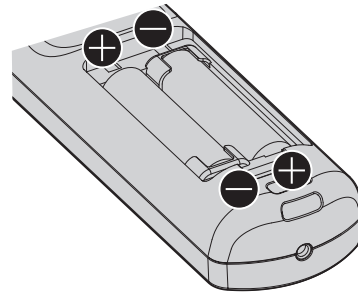

Fig. 2
- 2) Insert the batteries and close the cover (insert the \ominus side first). (Fig. 2)